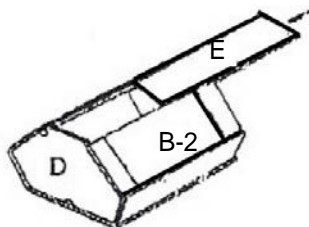
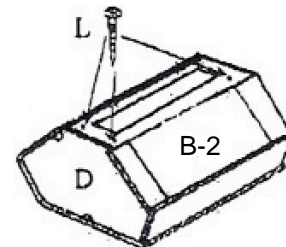

Figure 7
Figure 8
5. **Installing the Back Panel (Figure 7):** Slide the back panel (E) into grooves of rear side Panel (B-2) Make sure the finished side of panel is towards the inside of the cabinet. Once the back panel is assigned and fitted tight, secure it with 1 " Back Panel Screws into the pre-drilled holes on the back panel (Figure 8).